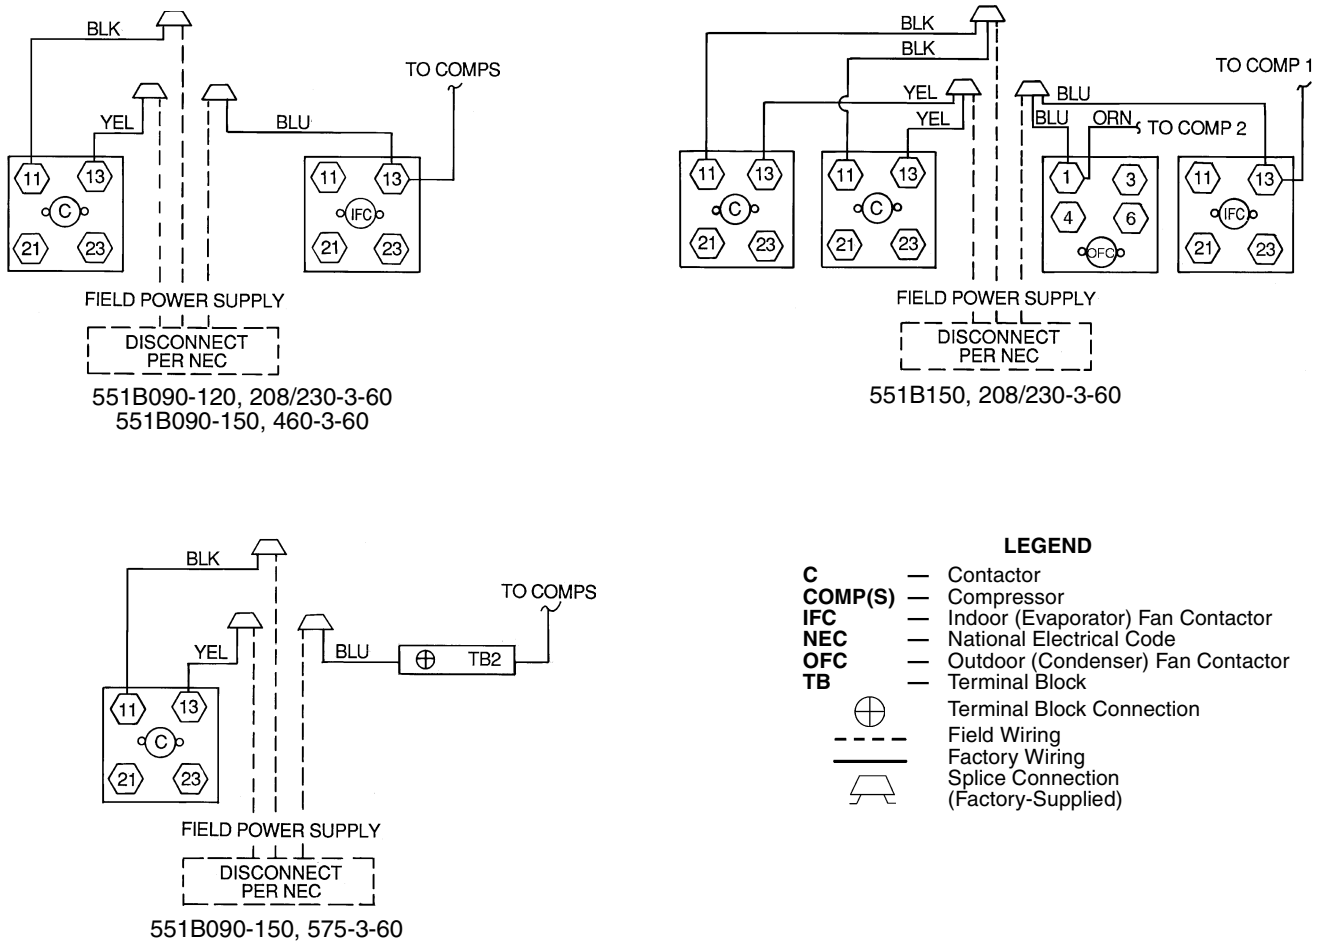

Fig. 8 — Power Wiring Connections
2. Install power lines to terminal connections as shown in Fig. 8.